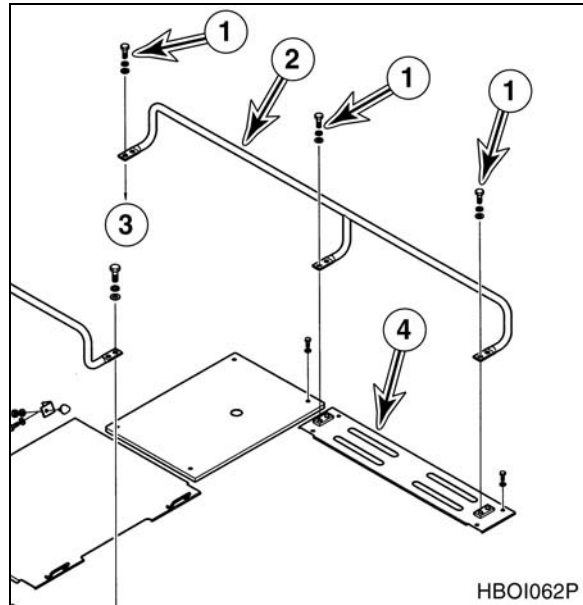

Figure 14
6. Install handrail (2, Figure 14) on fuel tank (3) and cover (4) with six bolts and washers (1).